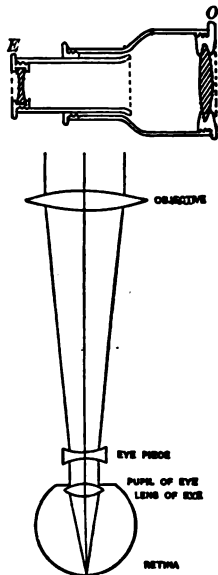

FIG. 440.—Opera glass
**462. The opera glass and field glass.** The opera glass (Fig. 440) is a telescope whose eyepiece is a diverging or concave lens. Since the eyepiece has approximately the same focal length as the eye of the observer, its effect is practically to neutralize the lens of the eye. So we may consider that the object glass forms its image directly on the retina. The field of view of the opera glass is small, and so the opera glass is usually made to magnify only three or four times. But it has the advantage of being compact and gives an erect image. Galileo made a telescope on this plan which magnified about 30 diameters and enabled him to make some exceedingly important discoveries. A large-sized opera glass is usually called a field glass.